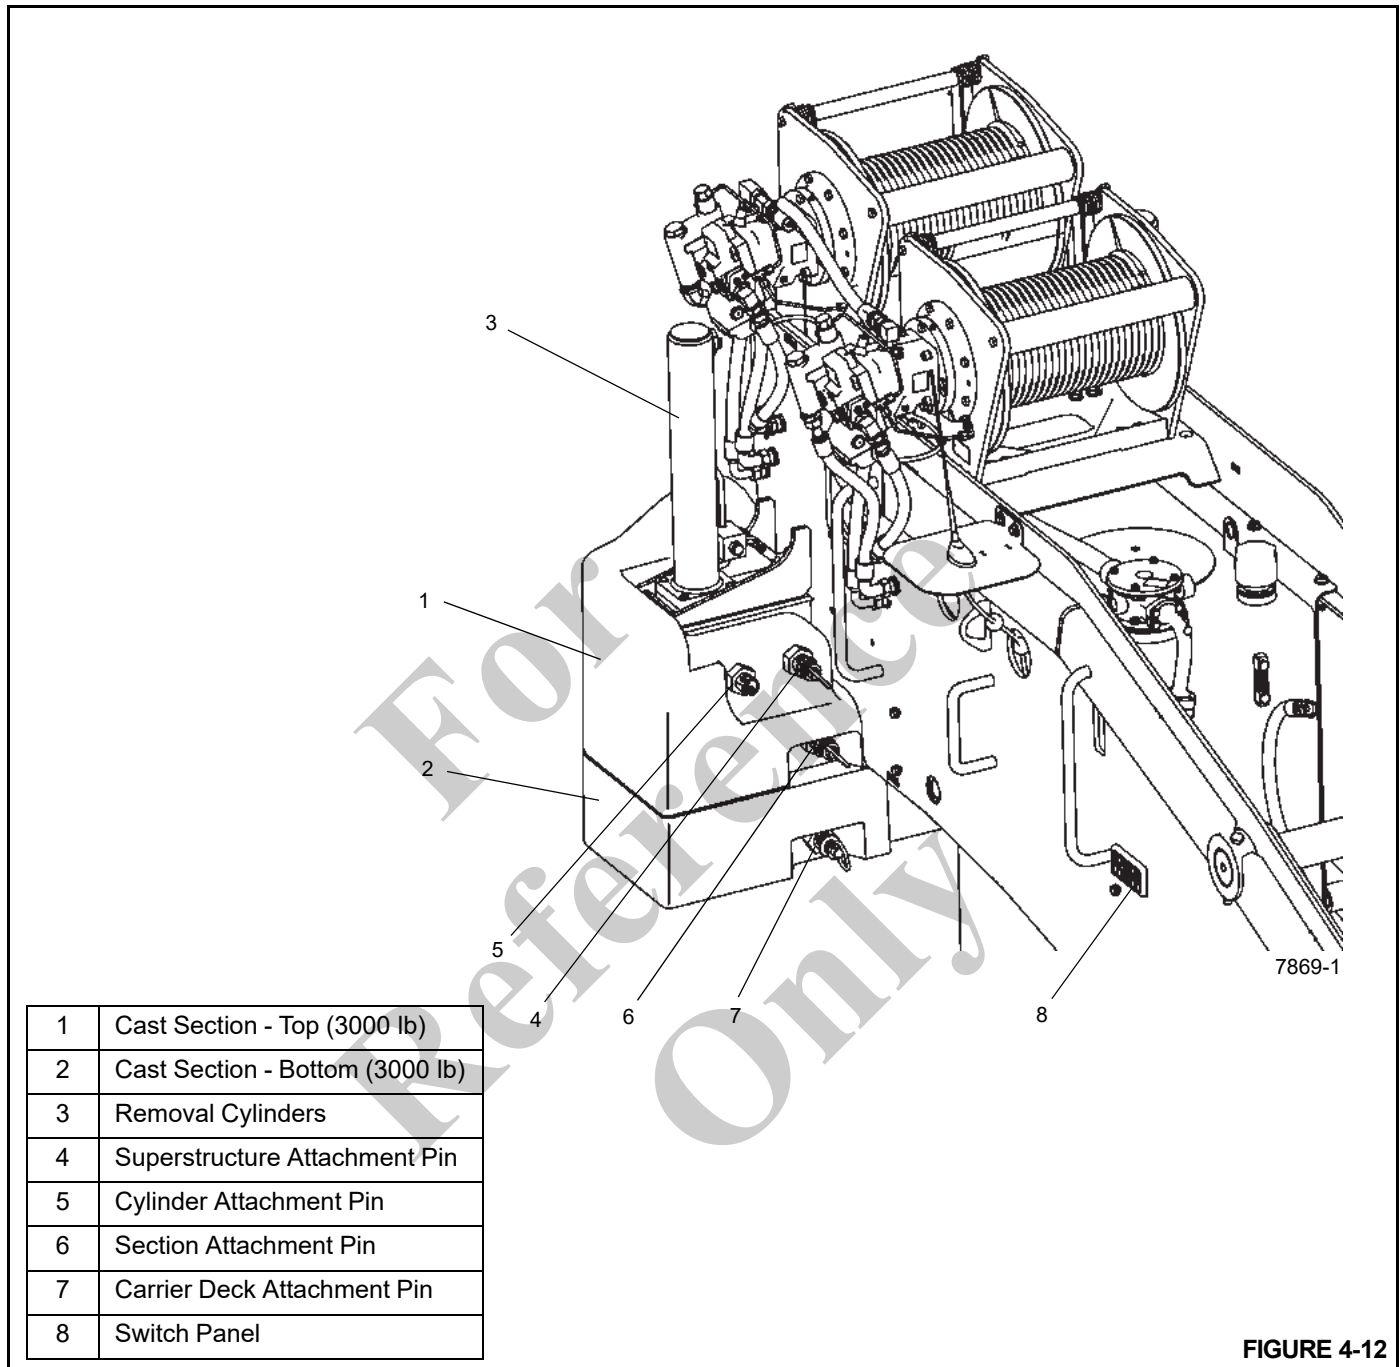

FIGURE 4-12
Refer to Figure 4-12 for an illustration of the components that make up the Removable Counterweight.
5. Retract left and right pins (5, Figure 4-12) from top of Removable Counterweight.
6. Remove left and right pins (4, Figure 4-12) from top of Removable Counterweight.
7. Remove left and right pins (7, Figure 4-12) that secure counterweight to carrier deck.
If crane is equipped with top and bottom counterweight sections (1, 2, Figure 4-12) and only the top section is to be loaded, only remove the left and right pins (6, Figure 4-12) which secure the top and bottom sections together; do not remove pins (7, Figure 4-12) that secure bottom counterweight to carrier deck.
- 9. Attach Removable Counterweight to cylinders using pins (5, Figure 4-12).
- 11. Secure Removable Counterweight to left and right sides of superstructure using pins (4, Figure 4-12).
6. Remove pins (4, Figure 4-12) that secure Removable Counterweight to superstructure.
8. Secure counterweight to carrier deck with pins (7, Figure 4-12).
If crane superstructure is loaded with only top counterweight section and bottom section is stowed on carrier deck, secure top section to bottom section with pins (6, Figure 4-12).
9. Remove pins (5, Figure 4-12) that secure Removable Counterweight to cylinders.